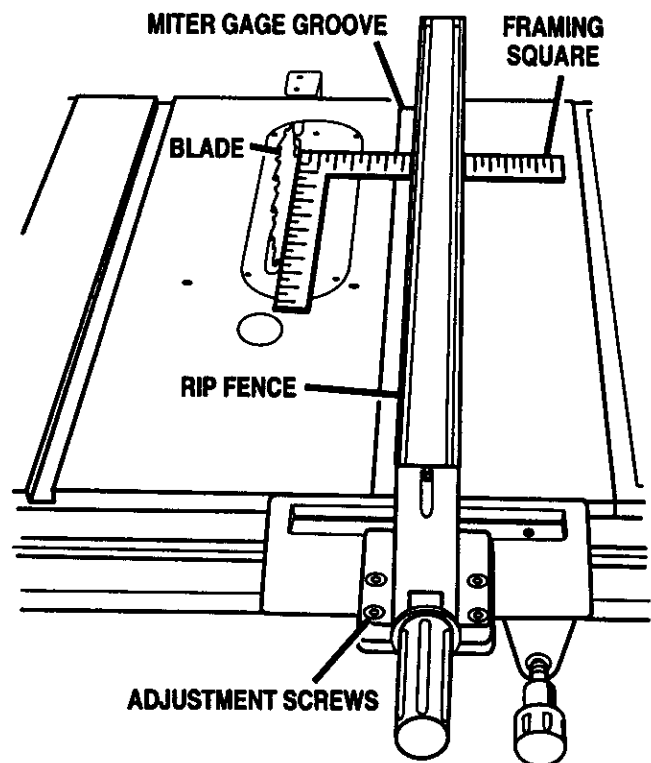

Fig. 33
- Move the square to the back and measure the length from the other end of the fence. See Figure 33.